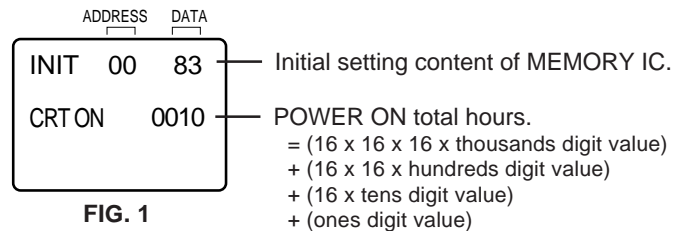

FIG. 1
3. ADDRESS and DATA should appear as FIG 1.